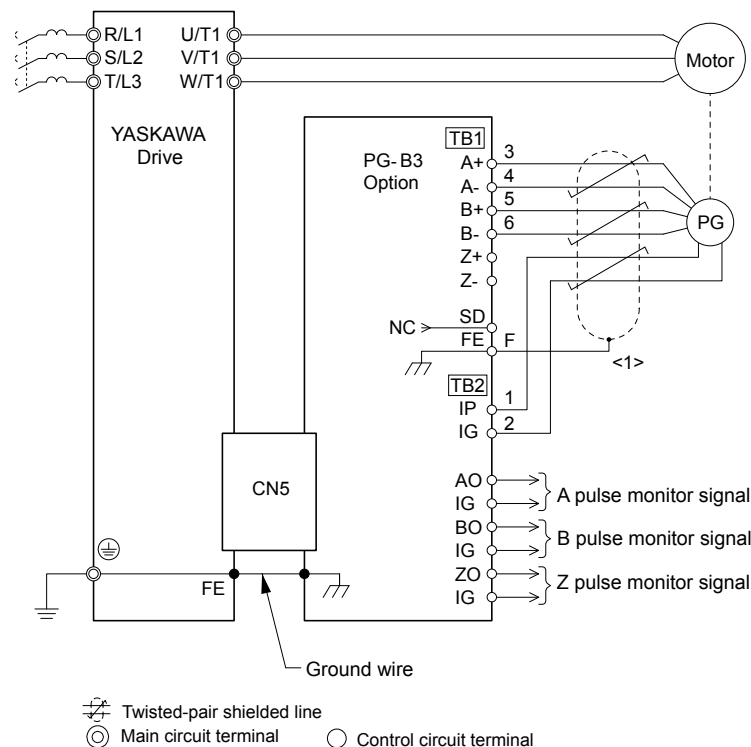
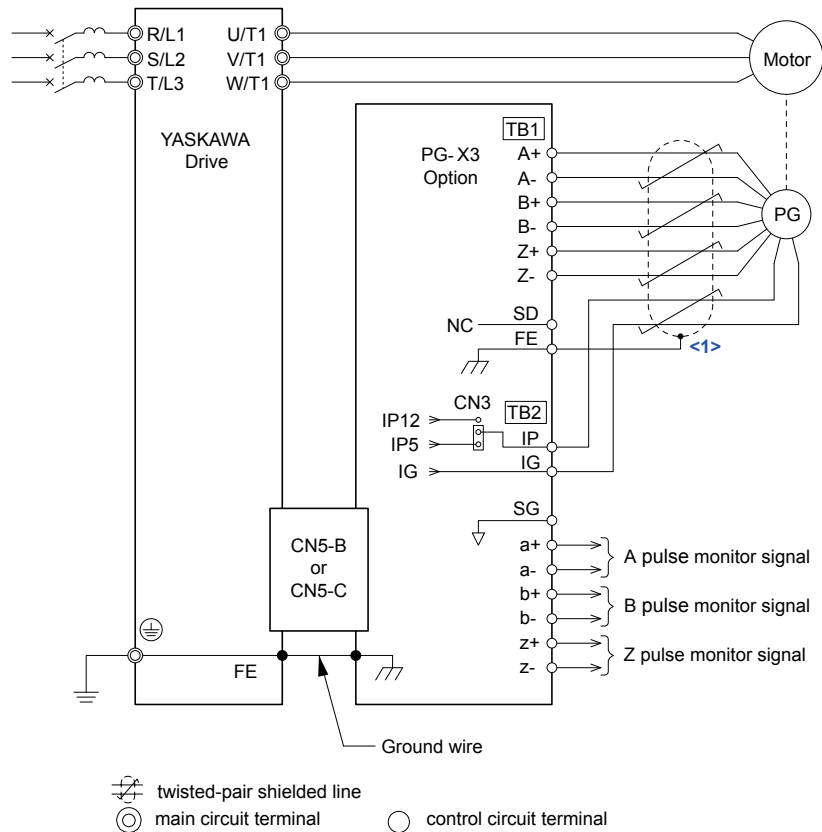

Figure 8.8 PG-B3 Option and Encoder Connection Diagram
Figure 8.9 PG-X3 Option and Encoder Connection Diagram
- 4.** Wire the motor PG encoder to the terminal block on the option. Refer to Figure 8.8 and Figure 8.9 for wiring instructions.